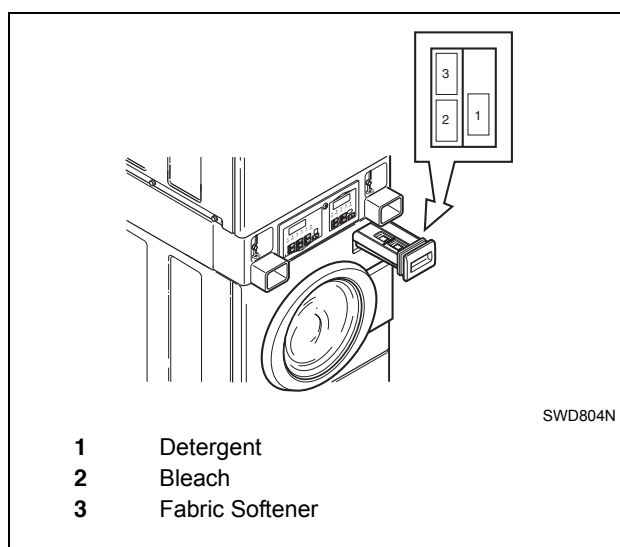

Figure 42
Open dispenser drawer. Measure and add low sudsing, high efficiency (HE) detergent (1), bleach (2) and fabric softener (3) to the dispenser drawer. Refer to *Figure 42*. Close dispenser drawer.